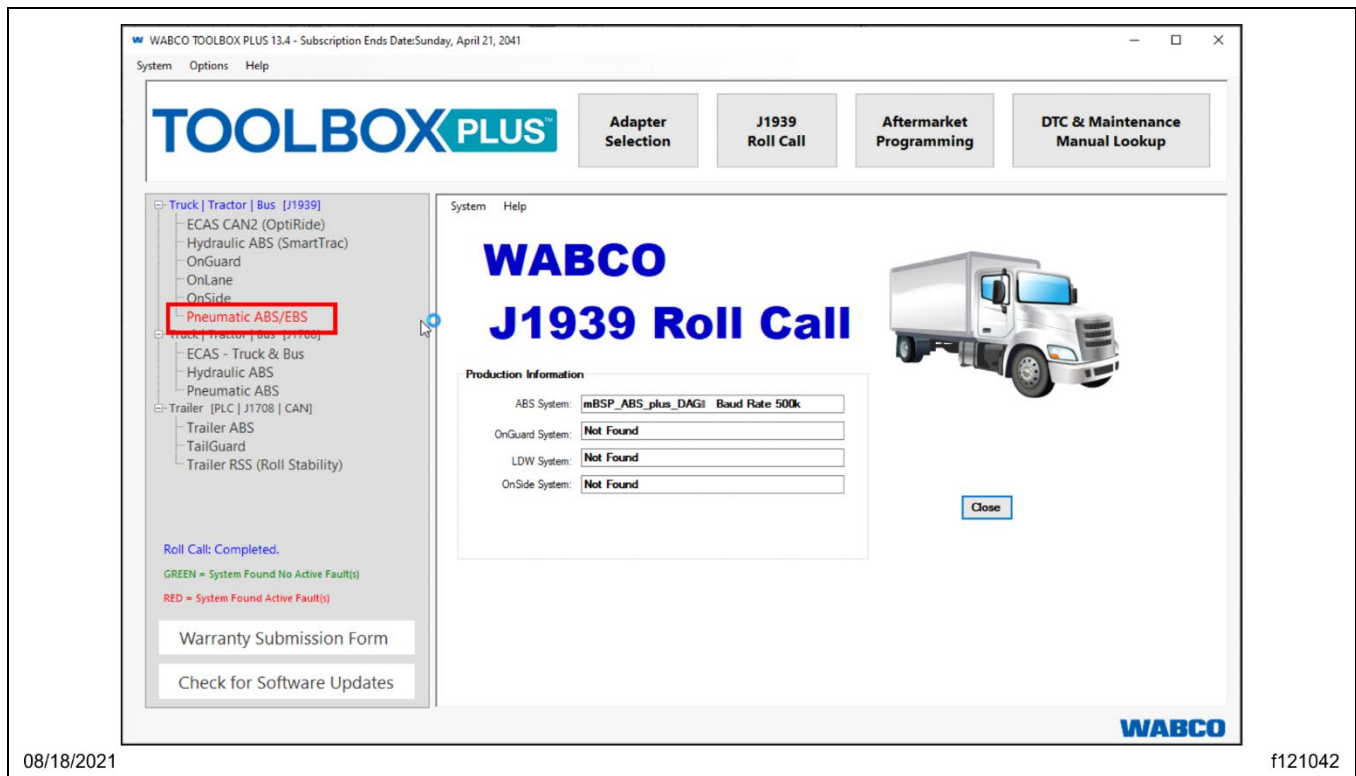

Fig. 61, WABCO TOOLBOX Window
20. Save a parameter file from the ECU as proof that the parameter update has been successfully completed, and add it to the vehicle repair order. This can be done in WABCO TOOLBOX. Launch the TOOLBOX software and select 'Pneumatic ABS/EBS.' See Fig. 61.